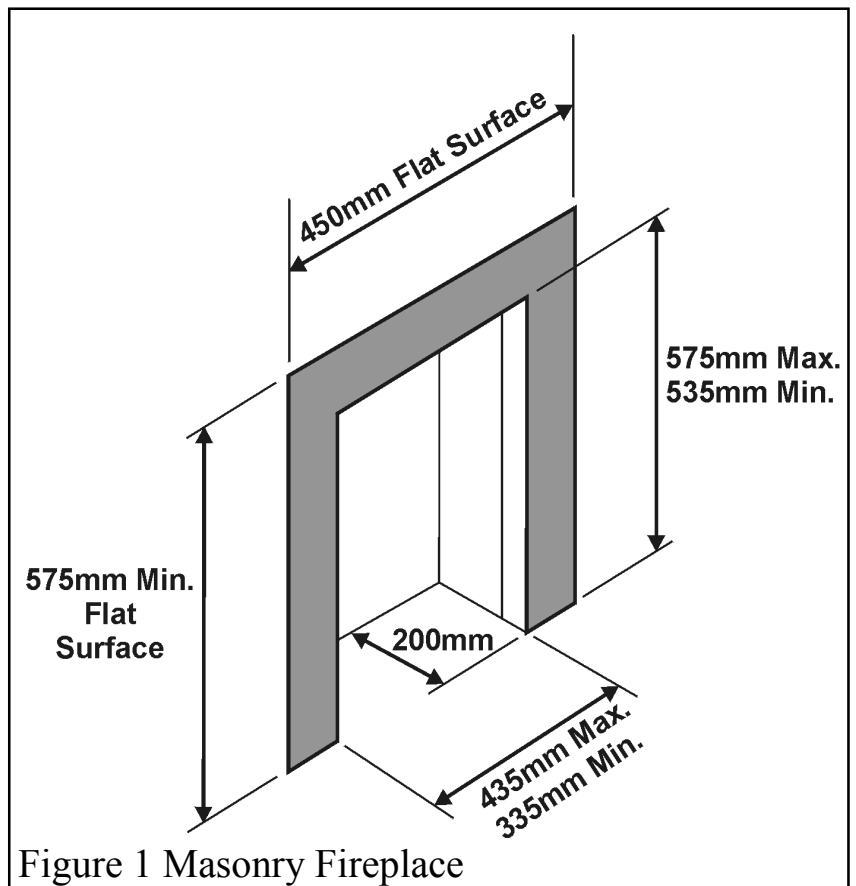

Figure 1 Masonry Fireplace
2.9.1 A masonry chimney with a minimum diameter of 175mm (7") free from any obstruction, and with any damper or restrictor plate in the chimney removed or secured, and having a minimum effective flue height of 3m (10ft). Note the relevant flat surface area requirement – See figure 1. A masonry chimney having a correctly installed flue liner to BS715 and with a minimum flue diameter of 125mm is also acceptable. Chair brick removal may not be required providing at least 50mm clearance is available from the flue outlet to any fireplace component. The appliance is designed to cater for low lintel installations (min height 505mm) providing a minimum distance of 25mm is maintained between the lintel and the front face of the fireplace (i.e. 25mm rebated fire surround).